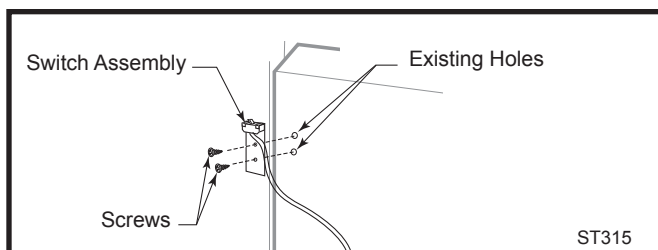

Fig. 41 Attach switch assembly to rear shroud.
1. Attach switch assembly to left rear side of stove shroud (when facing shroud) using two screws and existing holes in shroud. (Fig. 41)